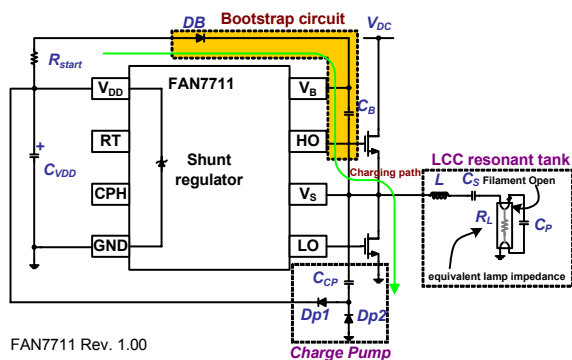

Figure 26. Implementation of Floating Power Supply Using the Bootstrap Method
When V_S is changing from high to low state, C_P is discharged through $Dp2$, shown as path (2) in Figure 26. These charging/discharging operations are continued until FAN7711 is halted by shutdown operation. The charging current, I , must be large enough to supply the operating current of FAN7711.
The supply for the high-side gate driver is provided by the boot-strap technique, as illustrated in Figure 26. When the low-side MOSFET connected between V_S and GND pins is turned on, the charging current for V_B flows through D_B . Every low V_S gives the chance to charge the C_B . Therefore C_B voltage builds up only when FAN7711 operates normally.